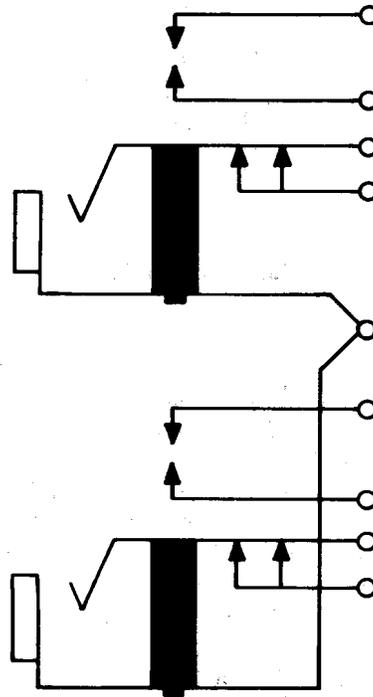

Fig. 9—610A Jack
2.09 610A: This single-mounted twin miniature jack (Fig. 9) has a single frame and is suitable to be used in equipment where space restrictions are a problem. This jack is designed to mate with the 310 plug. It is not provided with a tip spring and is used in Data Set 113B-L1.